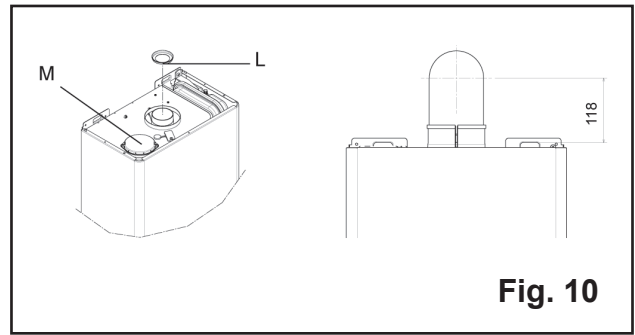
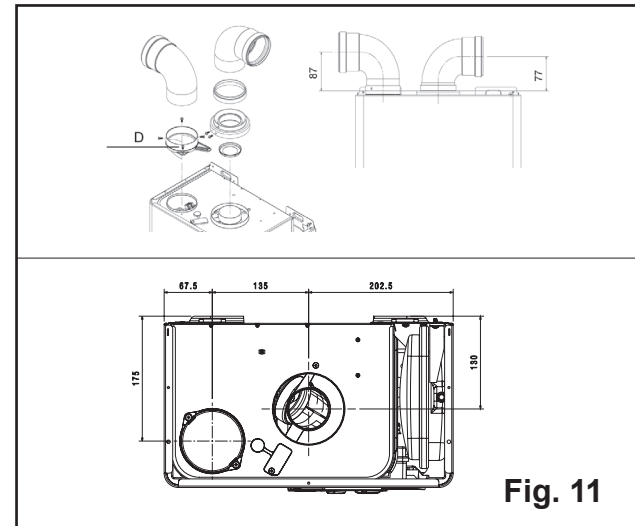
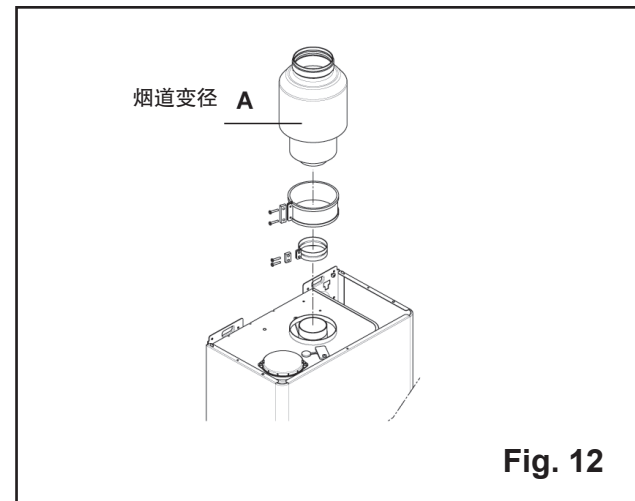
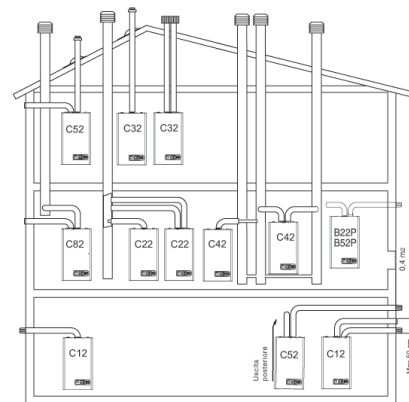

Fig. 10
Fig. 11
Fig. 12
Fig. 13
## 7. 锅炉的进气与排烟 ( fig.10-fig.13 )
**同轴烟道(Φ60-100) ( fig.10- fig.12 )**
**双轴烟道 ( Φ80 ) ( fig.11-fig.12 )**